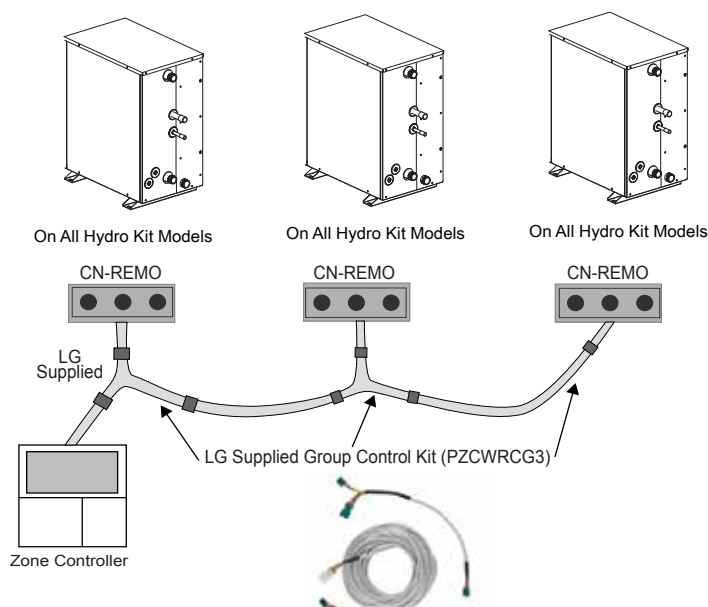

Figure 32: Communication Cable - Multi Hydro Kits to Unit Control
Although up to 16 Hydro Kits can be linked together and controlled as one group. All Hydro Kits must be of the same model type. Do not mix K2 and K3 models on the same communication cable! See Figure 32.
- If any Hydro Kits are to operate together in a group, use one (or multiple) three-core Group Control Kits (sold separately) containing extension and Y-splitter cables. One (1) group control cable kit for each Hydro Kit in the group except for the last indoor unit.
- Use a daisy chain configuration and connect all of the group's Hydro Kits together starting at the "Master" unit as shown in Figure 32.